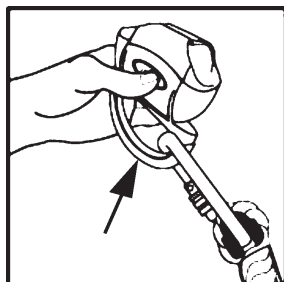
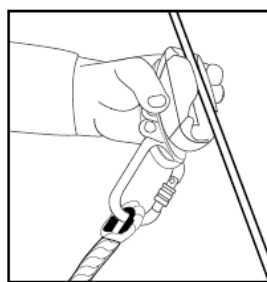
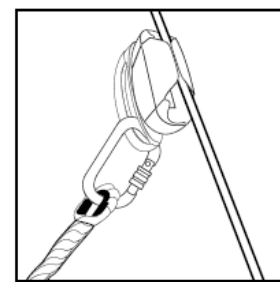

Fig. 3.4
Fig. 3.5
Fig. 3.6
Open the half shells (3) of the shuttle by pressing the unlock key (2) and pushing the anchoring eye (1) upwards (fig. 3.4). Attach the shuttle to the cable (fig. 3.5) Release the unlock key (2). The half-shells (3) close automatically. The shuttle can then move freely on the cable (fig. 3.6).
To detach the shuttle after use press the unlock key (2) and push the anchoring eye upwards (fig. 3.4) and take the shuttle off.